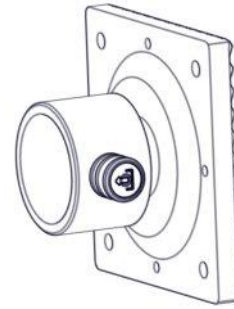

Figure 1-11. Swivel Strut Base 6
h. **Swivel Strut Base 6.** The Swivel Strut Base 6 (Figure 1-11) is a 6" (15.2 cm) square with non-skid grooved surface plate, The Swivel Strut Base cup can swivel 360 degrees around the plate and angle for a maximum of 20 degrees off a 90 degree vertical, The swivel strut base is used where the surfaces to supported are not parallel.